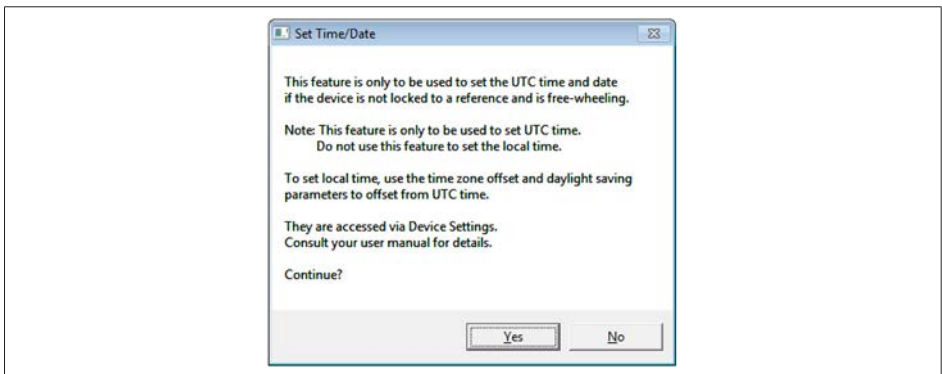

Fig. D.27 Set Time/Date
10. A message will be shown (see Fig. D.27)